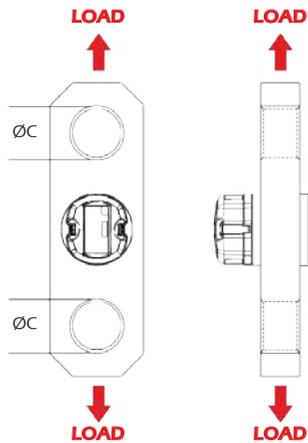
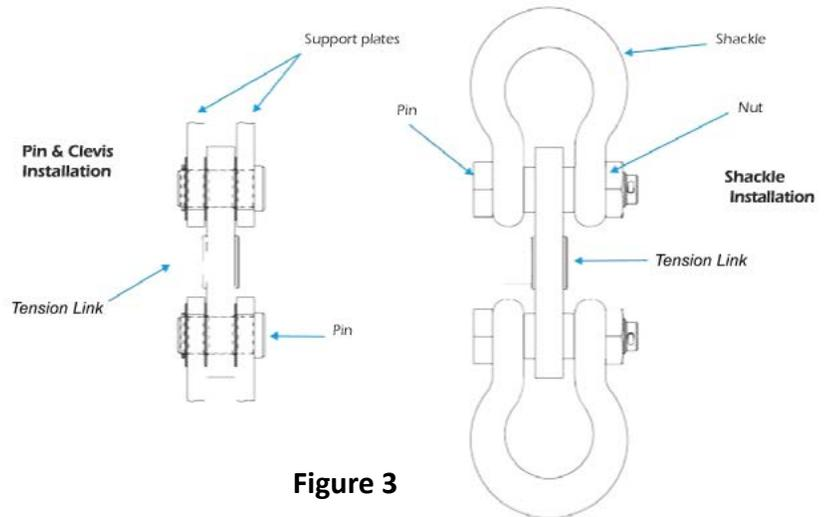

Figure 2
Figure 3
- The direction of the load applied to a link should be linear as shown in Figure 2.
- The tension link load cell should only be loaded in tension using the $\varnothing C$ holes as shown in Figure 2. See figure 3 for two common examples of installations.
- With the tension link installed, check to make sure that the displayed output is not negative, as this may indicate either a fault or a compressive force is being applied to the tension link. See Figure 2 on previous page.